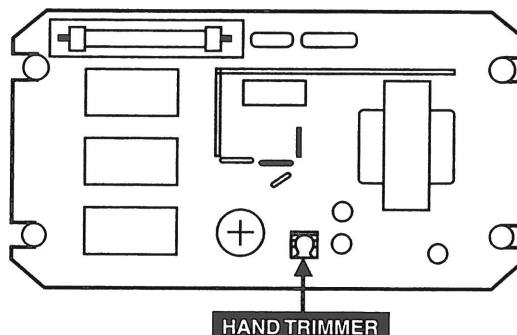

Figure 31: Hand Trimmer Location on AVR.
- a. If there is some voltage, but it does not build up to rated voltage, voltage adjustment can be made using the "hand trimmer" in the AVR (Figure 31).